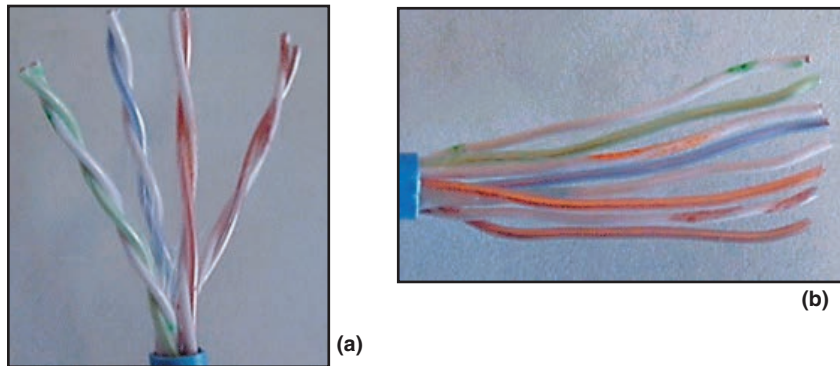

FIGURE 2-24 (a) Separating wire pairs and (b) orienting the wires.
- Sort the wire pairs so that they fit into the connector and orient the wire in the proper order for either T568A or T568B, as shown in Figures 2-24(a) and 2-24(b). Be careful to avoid creating a split pair connection (that is, using a wire from one pair and a wire from another pair to make a connection). A split pair connection may create interference and crosstalk problems, thus preventing the cable from passing a certification test. This problem is discussed in Section 2-5, “Cable Testing and Certification.”